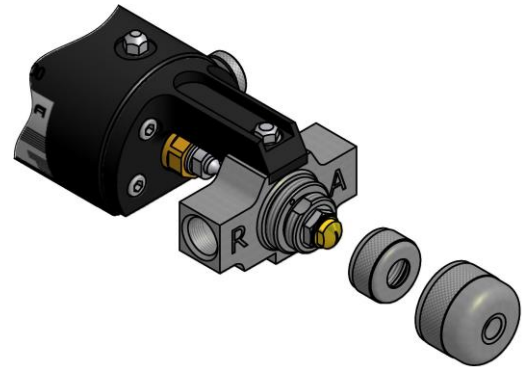

Figure. 10
9. Remove the diffuser and the PCD nut, turn them anti-clockwise with your hand and clean them with gun-cleaning solvent (see **Figure. 10**).